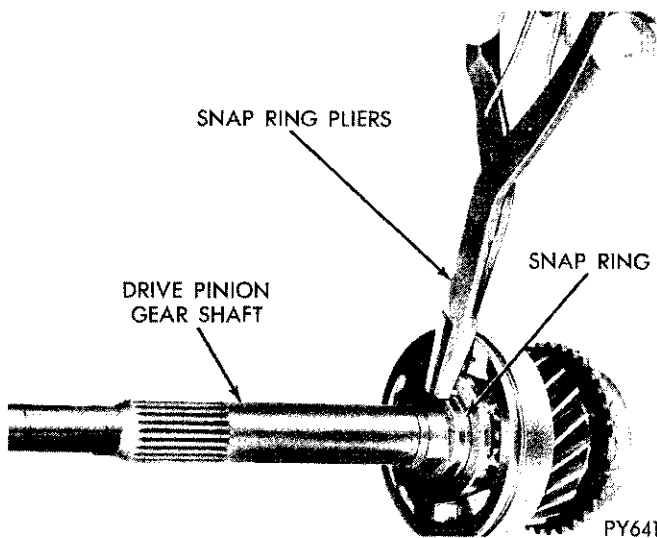

Fig. 12—Snap Ring, Pinion Shaft to Bearing—Removal or Installation
(5) If bearing is to be replaced, remove snap ring and press bearing off the pinion gear shaft (Fig. 12).
groove forward. Install snap ring on shaft (Fig. 12).